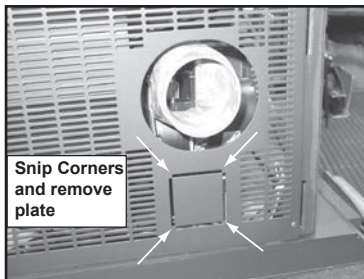

Figure 19.1
- Snip corners and remove plate. **Figure 19.1.**